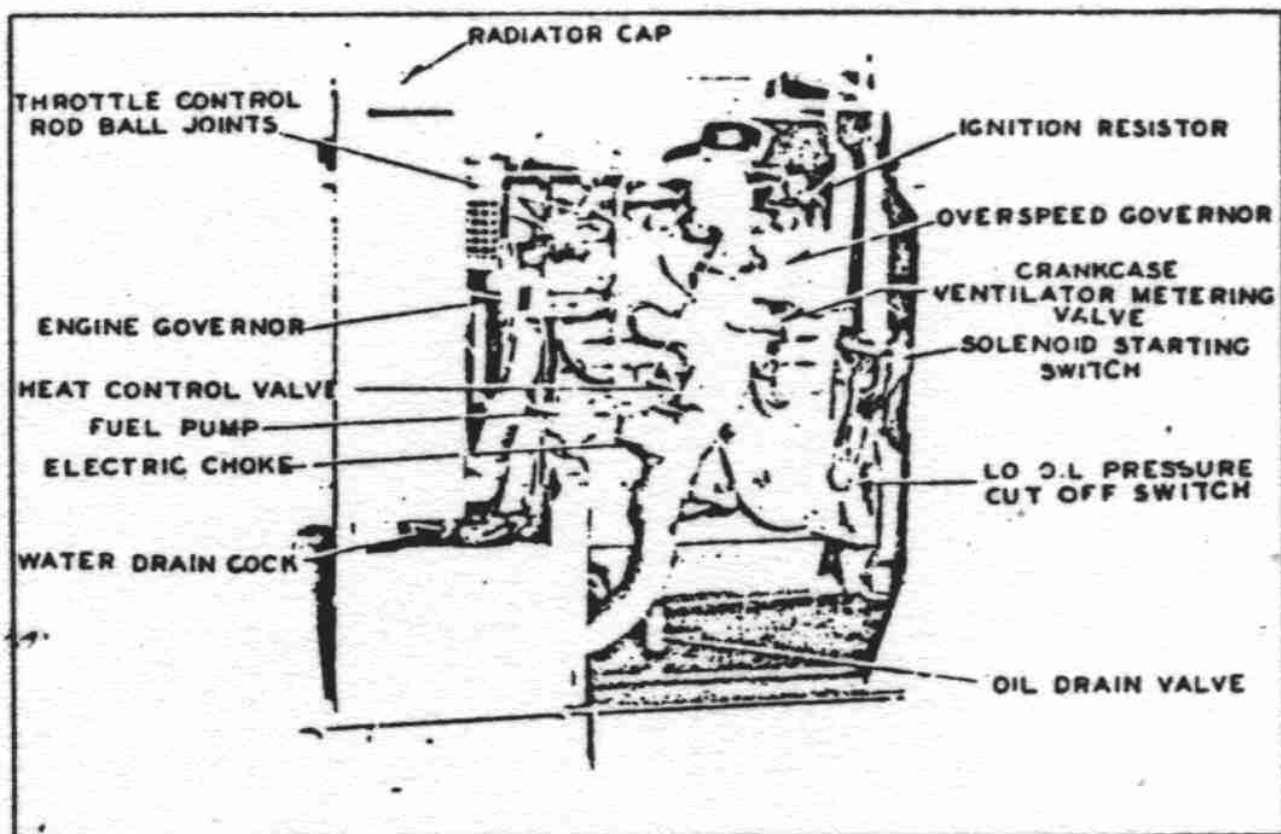

FIG. 5 RIGHT SIDE OF ENGINE
a. Design.—The engine (Fig. 5) is of the 4-cylinder, 4-cycle, L-head, water cooled, automotive type. It furnishes the power which drives the main generator to which it is direct-connected. It also drives certain necessary accessory equipment. It is designed to operate on regular gasoline of 70 to 80 octane.
c. Miscellaneous Control Equipment.—The following control devices are located at different places on the power unit. (See Figs. 5 and 6).
(19) *Fuel Pump.*—By means of the lever on the side of the fuel pump, (Fig. 5), pump the carburetor bowl full of fuel. If the engine camshaft sets so that the pump diaphragm is in its lowest position, the lever will not operate the pump. In that case insert the hand crank and crank the engine one complete revolution. Then the pump can be operated by the lever. Always push the lever down after pumping. If left up, the pump will not be operated by the engine. Examine the entire fuel system for leaks and correct any found.